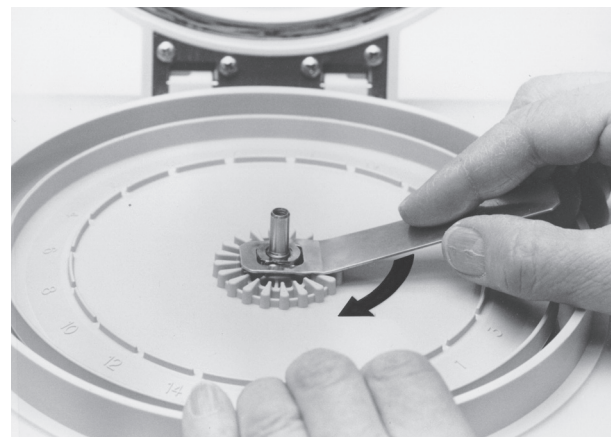

Figure 3-5. Tightening Rotor with Head Nut Wrench
- c) Thread the head nut onto the shaft finger-tight, by turning it **clockwise**. Tighten with a light torque using the head nut wrench supplied with the centrifuge (Figure 3-5). **DO NOT OVERTIGHTEN.** Turn nut 1-2 tube positions to tighten.